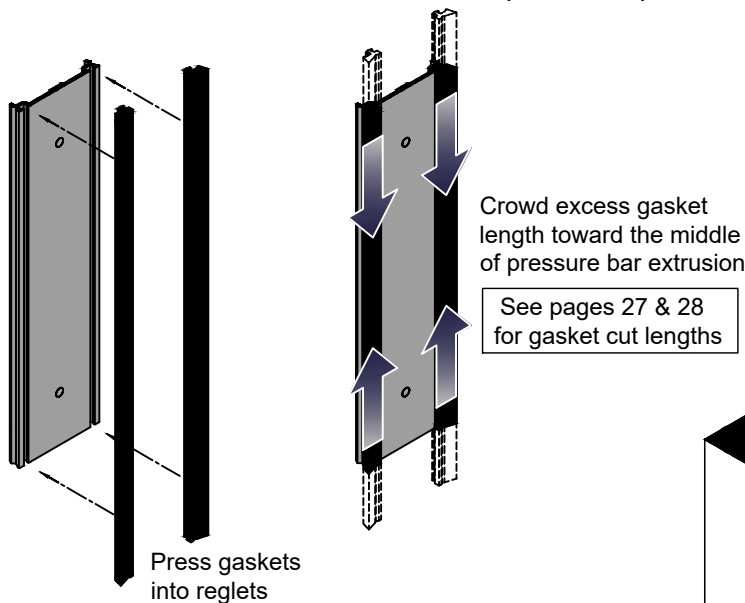
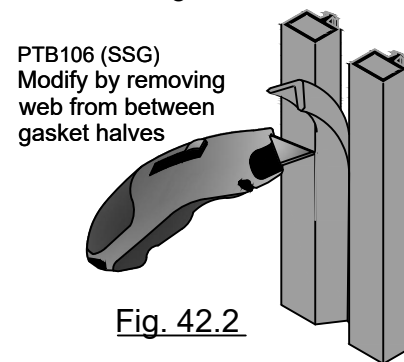
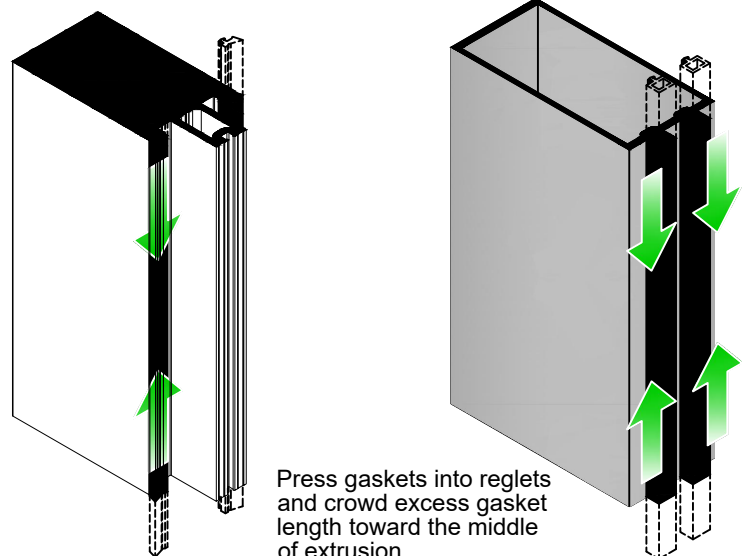
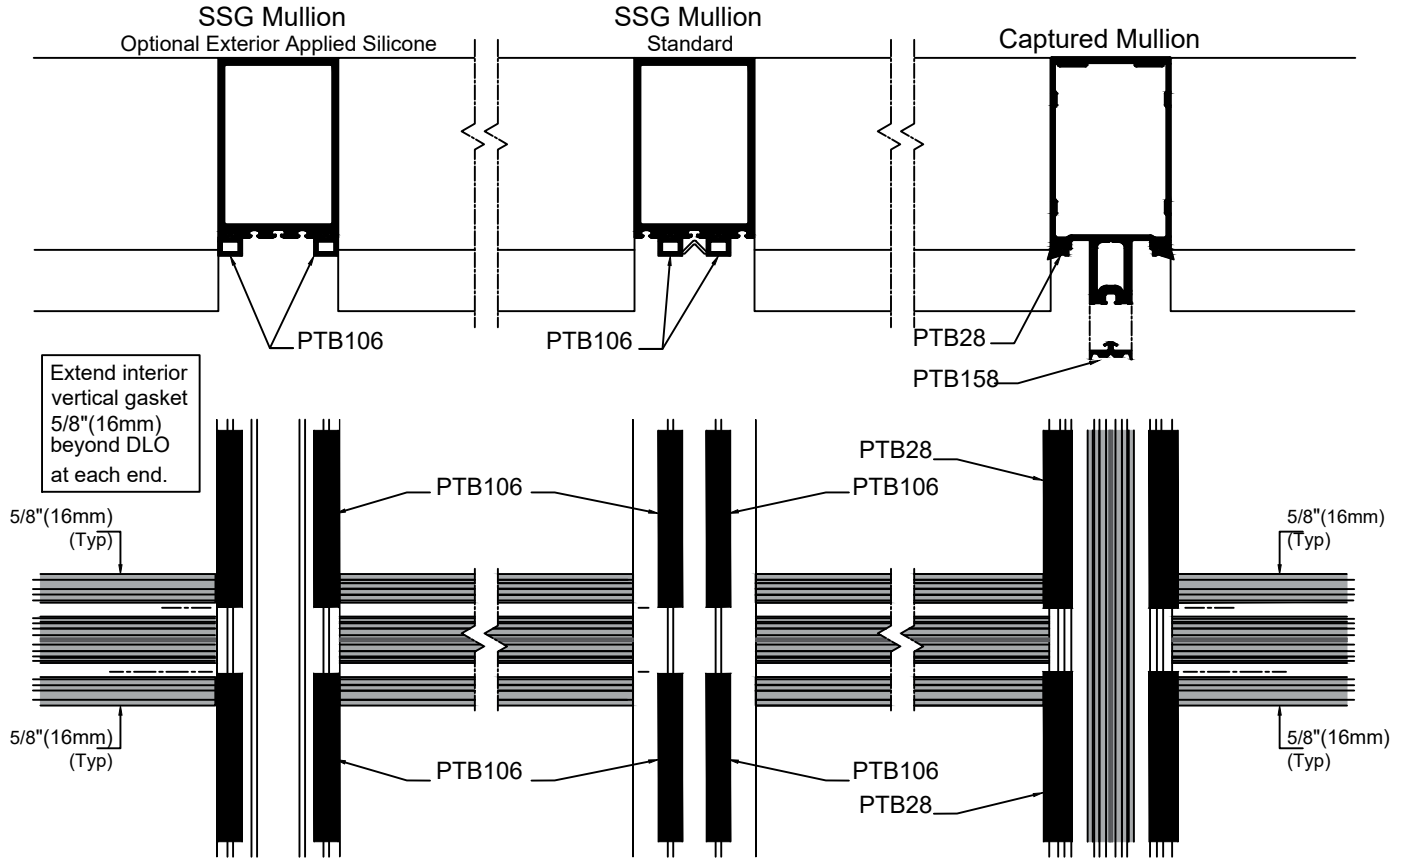

Fig. 42.1
Fig. 42.2
Fig. 42.3
Fig. 43.1
NOTE: When using fiberglass pressure plates, install perimeter seal as shown in Fig. 42.1 and Fig. 42.2.
- A. Install PTB28 gasket into vertical and horizontal pressure plates. See Fig. 42.1. **When PTB28 gasket is used with PTB120 thermal pressure plate, seal in place with 1" of sealant to both ends and every 18"**
- B. Install PTB28 gasket into vertical mullions. See Fig. 42.3 and Fig. 43.1. Vertical mullion gaskets run beyond the horizontals. Run the vertical gasket through the vertical splice joint, setting in fresh sealant at the splice. Notch darts off the gasket as required for proper fit.
- E. For SSG vertical applications, remove the joining legs on PTB106 SSG spacer gasket. See Fig. 42.2. Install into vertical mullion with equal overlap into each horizontal pocket. See Fig. 43.1.